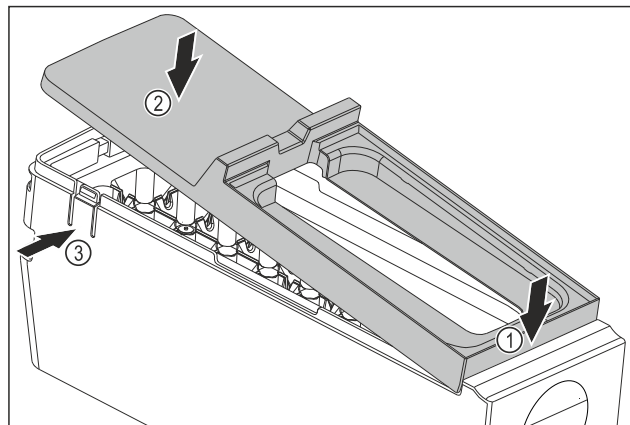

Fig. 115
- Installing the EasyTwist-Ice body cover: Place the cover on the front. Fig. 115 (1)
- Lower the cover at the rear. Fig. 115 (2)
- ▷ The cover locks into both tabs Fig. 115 (3) audibly.